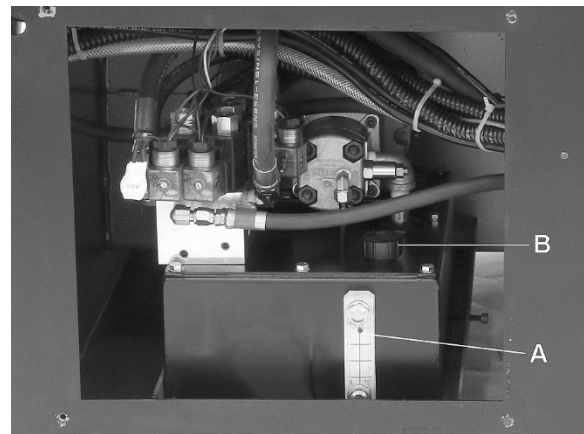

Figure 11-3: hydraulic oil servicing
3. Check oil level (A, Figure 11-3). If level is below yellow (upper) line, the reservoir should be filled.
5. Remove reservoir fill cap (B).